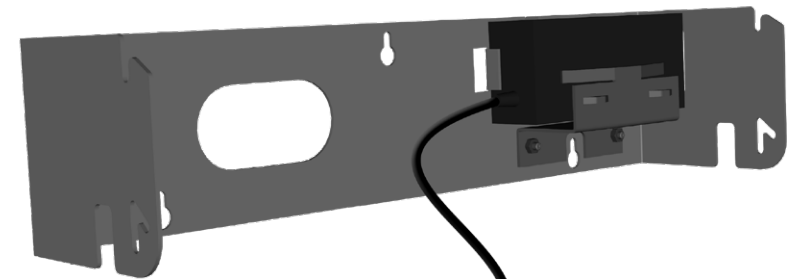

**Figure 7.** Remove bracket and power supply from long rack ear
2. Disconnect the power supply supporting bracket from the longer (R) rack mount bracket (Figure 7). Reserve the hex nuts for reattachment to the wall bracket.